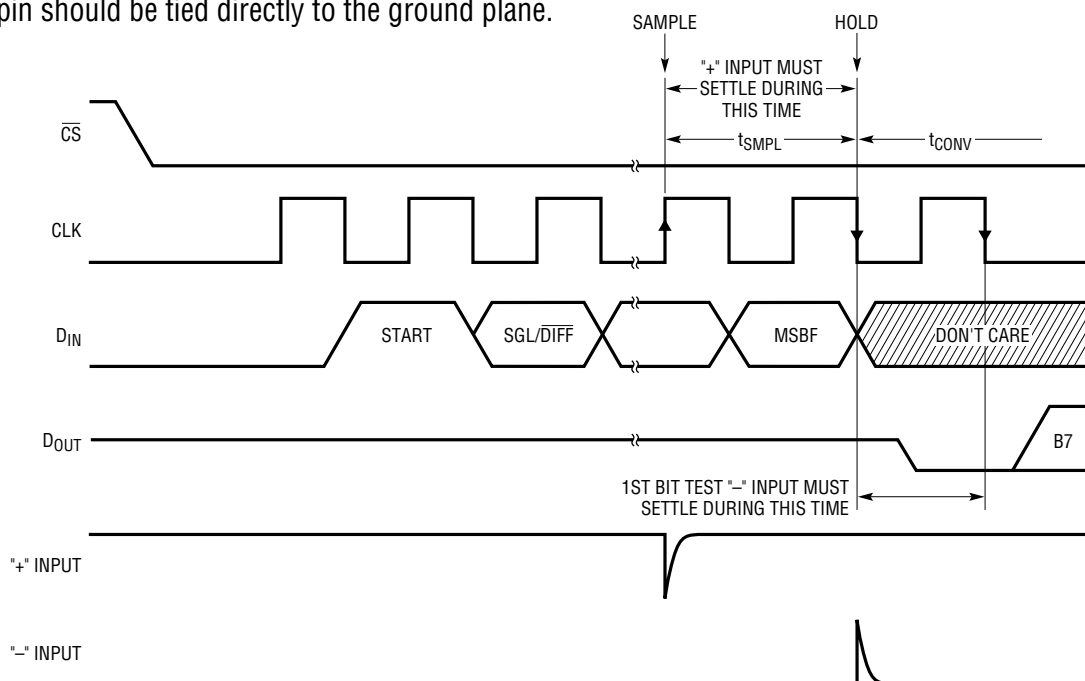

Figure 7. LTC1098(L) “+” and “-” Input Settling Windows
Both the LTC1096(L) and the LTC1098(L) provide a built-in sample-and-hold (S&H) function to acquire signals. The S&H of the LTC1096(L) acquires input signals from “+” input relative to “-” input during the t_{WAKEUP} time (see Figure 1). However, the S&H of the LTC1098(L) can sample input signals in the single-ended mode or in the differential inputs during the t_{SMPL} time (see Figure 7).
The sample-and-hold of the LTC1098(L) allows conversion of rapidly varying signals. The input voltage is sampled during the t_{SMPL} time as shown in Figure 7. The sampling interval begins as the bit preceding the MSBF bit is shifted
The input capacitor of the LTC1096(L) is switched onto “+” input during the wake-up time (see Figure 1) and samples the input signal within that time. However, the input capacitor of the LTC1098(L) is switched onto “+” input during the sample phase (t_{SMPL} , see Figure 7). The sample phase is 1.5 CLK cycles before conversion starts. The voltage on the “+” input must settle completely within
When driving the analog inputs with an op amp it is important that the op amp settle within the allowed time (see Figure 7). Again, the “+” and “-” input sampling times can be extended as described above to accommodate slower op amps. Most op amps, including the LT1006 and LT1413 single supply op amps, can be made to settle well even with the minimum settling windows of 3 μ s (“+” input) which occur at the maximum clock rate of 500kHz.